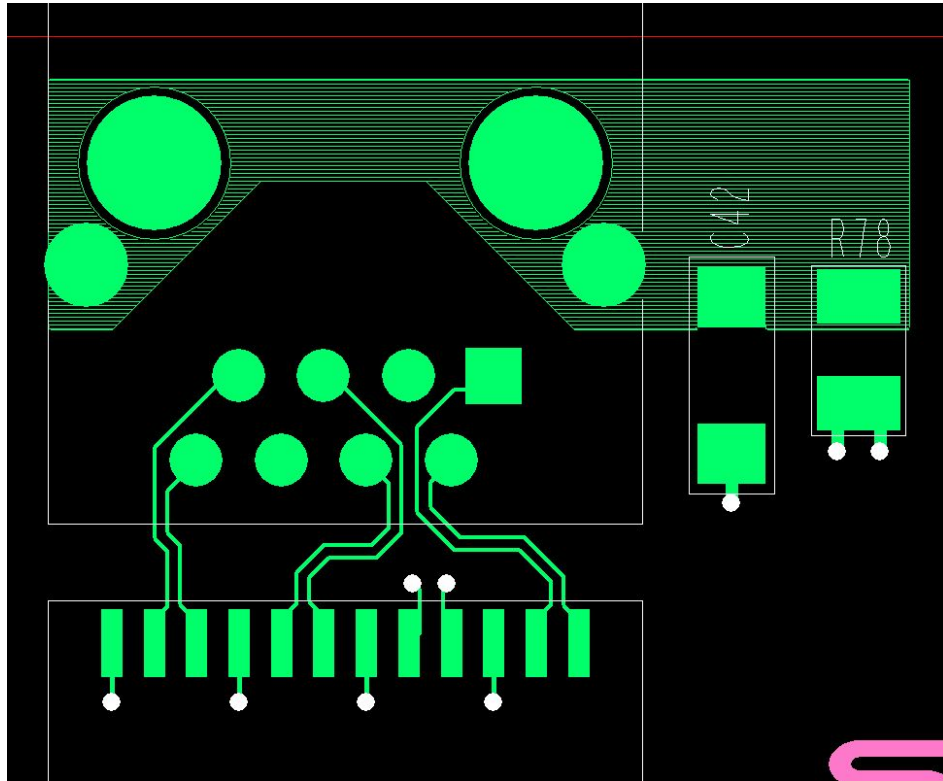

Figure No. 2
10. Refer to Figures No. 2 & 3 for differential pair routing details.